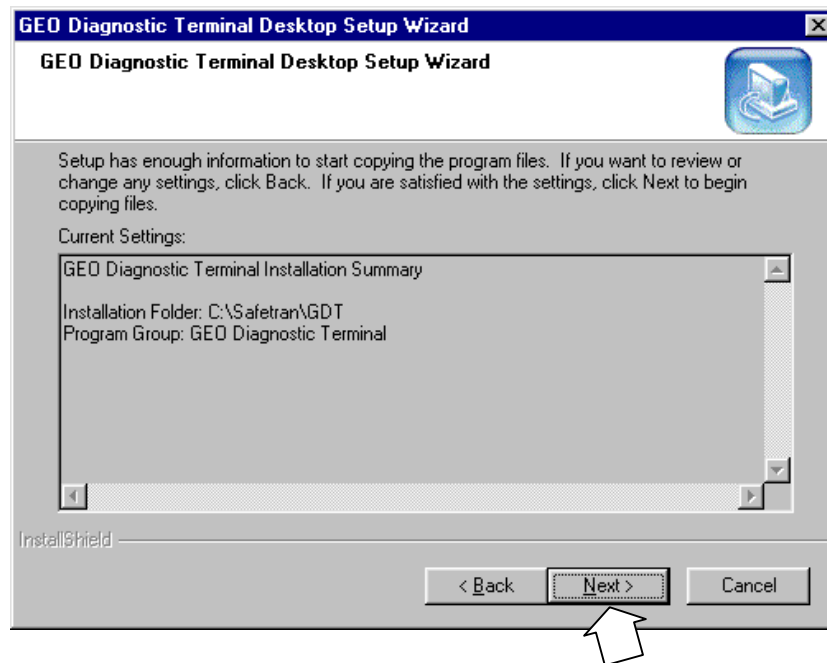

Figure 2-5
7. The “Installation Summary” window appears (figure 2-5).